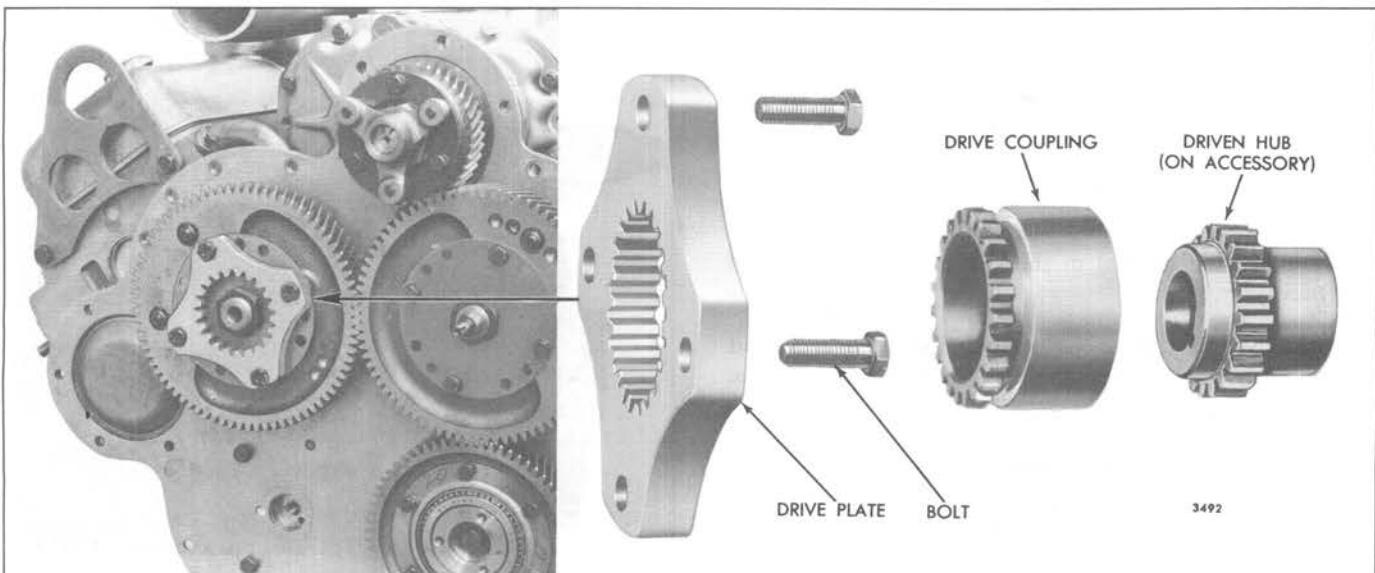

Fig. 3 - Components of Accessory Drive for Direct-Driven Accessories
A direct-driven accessory is flange-mounted on the flywheel housing and is driven by a coupling which is splined to both the accessory drive plate and a drive hub on the accessory shaft (Fig. 3).
Refer to Fig. 3 and remove the accessory drive used with a direct-drive accessory as follows:
Inspect the ball bearing used to support the accessory drive shaft shown in Fig. 3. *Shielded bearings must not be washed;* dirt may be washed in and the cleaning fluid could
If an accessory drive plate is used, refer to Figs. 3 and 4 and proceed as follows:
2. If a gear-driven accessory is used, install the drive coupling (Fig. 3) and proceed as follows: